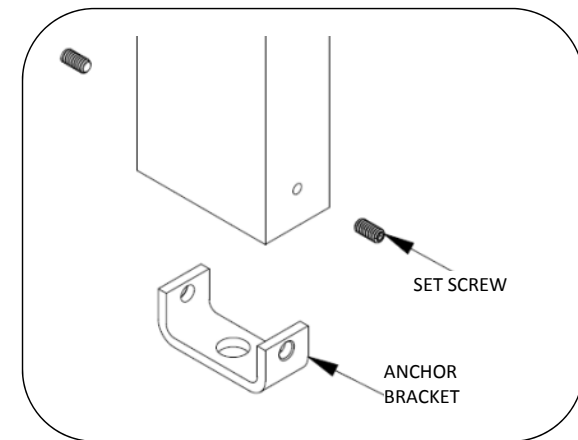

Fig. 1 – Install anchor bracket
6. Install anchor brackets as shown in Fig 1. Anchor bracket is 3/16" thick.